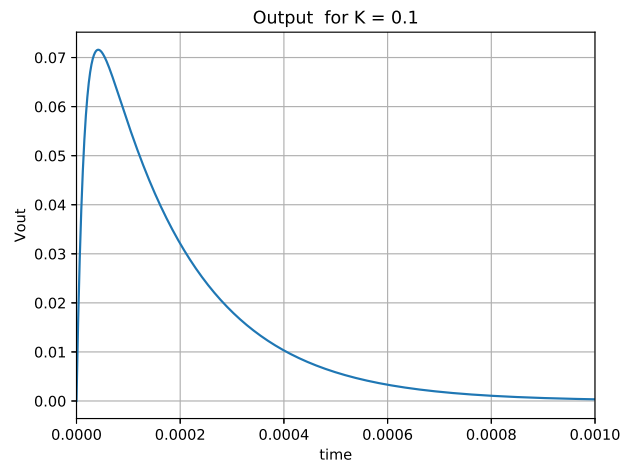

Fig. 10
- Figure 10 is the spice simulated output for K = 0.1 using Table 9 parameters.